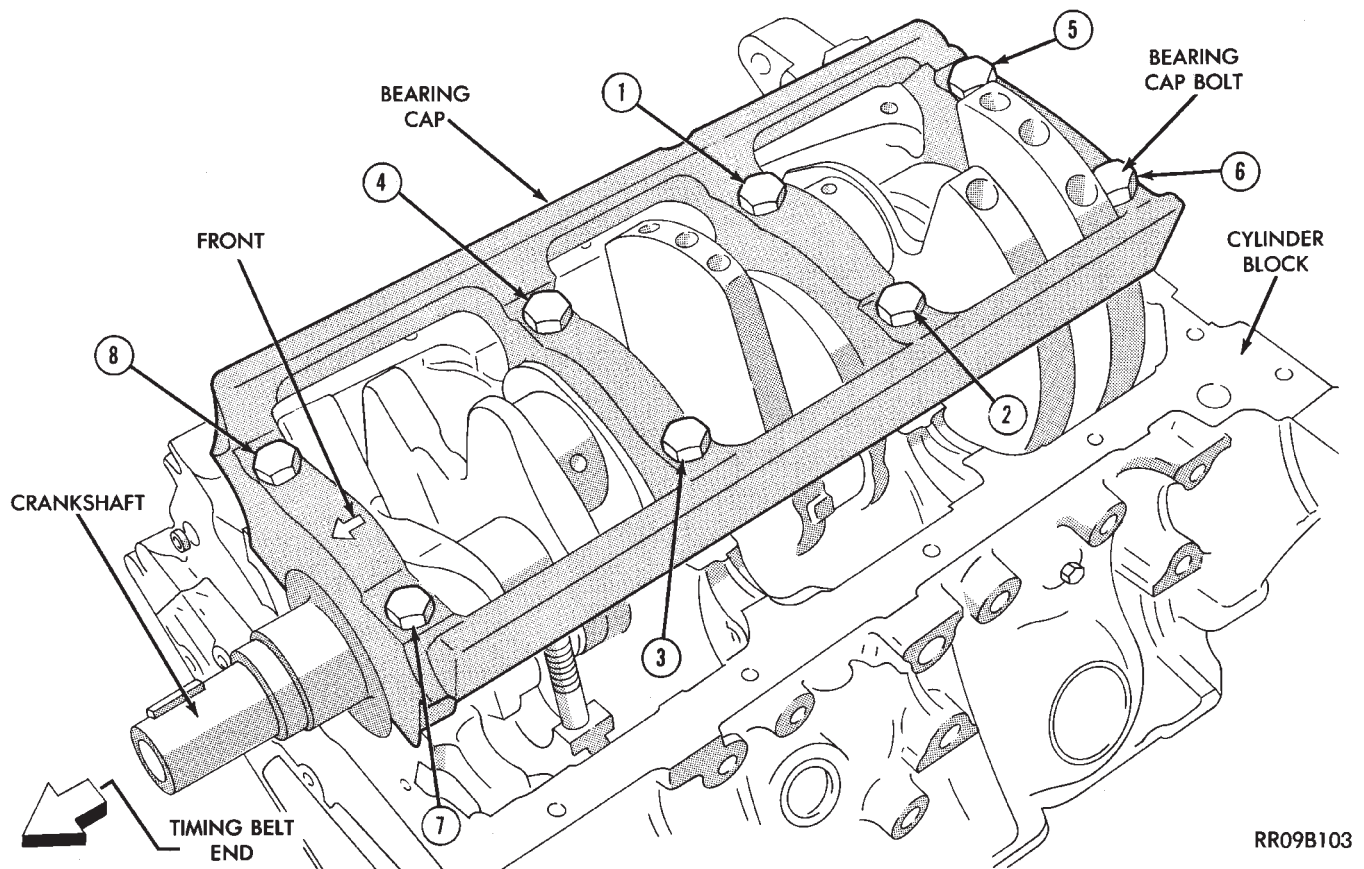

Fig. 10 Crankshaft Main Bearing Cap
(6) Carefully install bearing cap with arrows (Fig. 10) toward timing belt end.